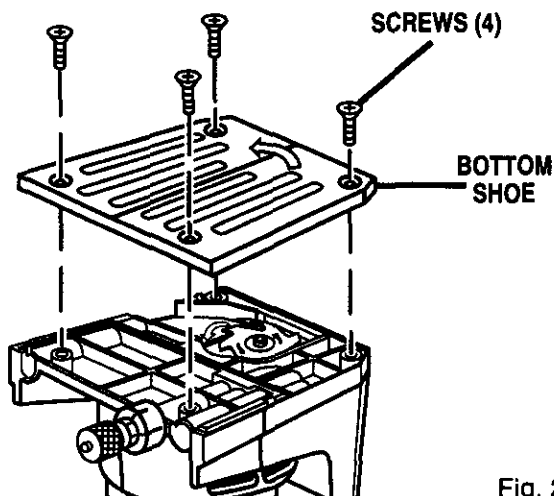

Fig. 20
- Place your Biscuit Joiner upside down on a workbench and remove the bottom shoe screws (4) and bottom shoe. See Figure 20.
Note: Blade teeth point toward the right of your Biscuit Joiner when held in normal operating position. An arrow on the bottom shoe also indicates direction of blade rotation. See Figure 20.